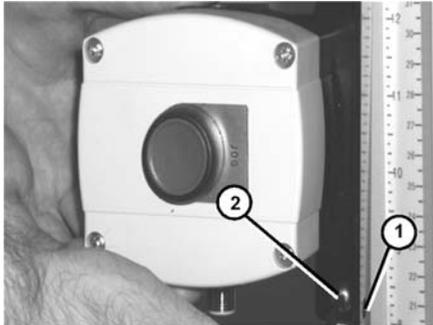

**Figure 10**
2. Attach button box kit (**Figure 10, item 1**) to conveyor with spacers (**Figure 10, item 2**) and screws (**Figure 10, item 3**).